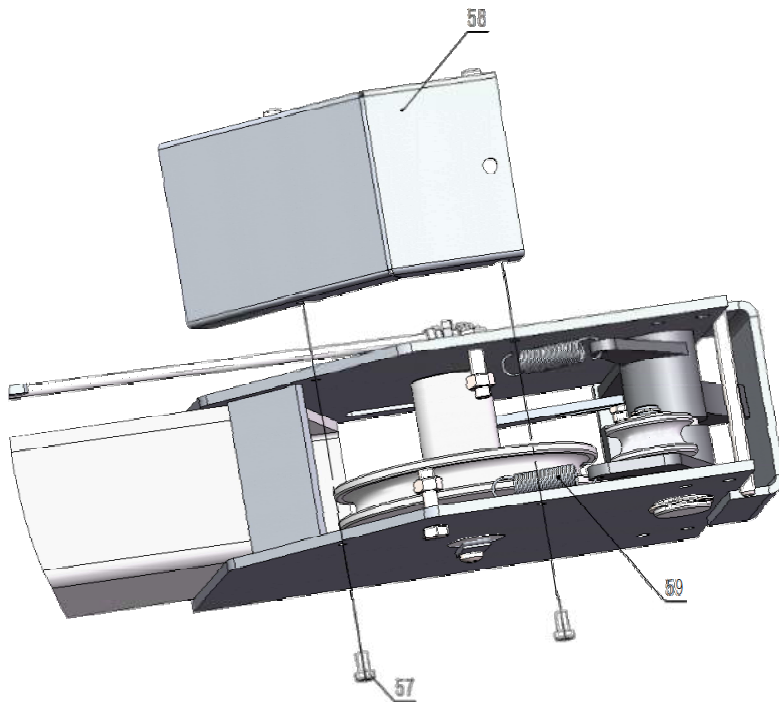

Fig.27
N. Install spring and beam safety cover of cross beam (See Fig.27).